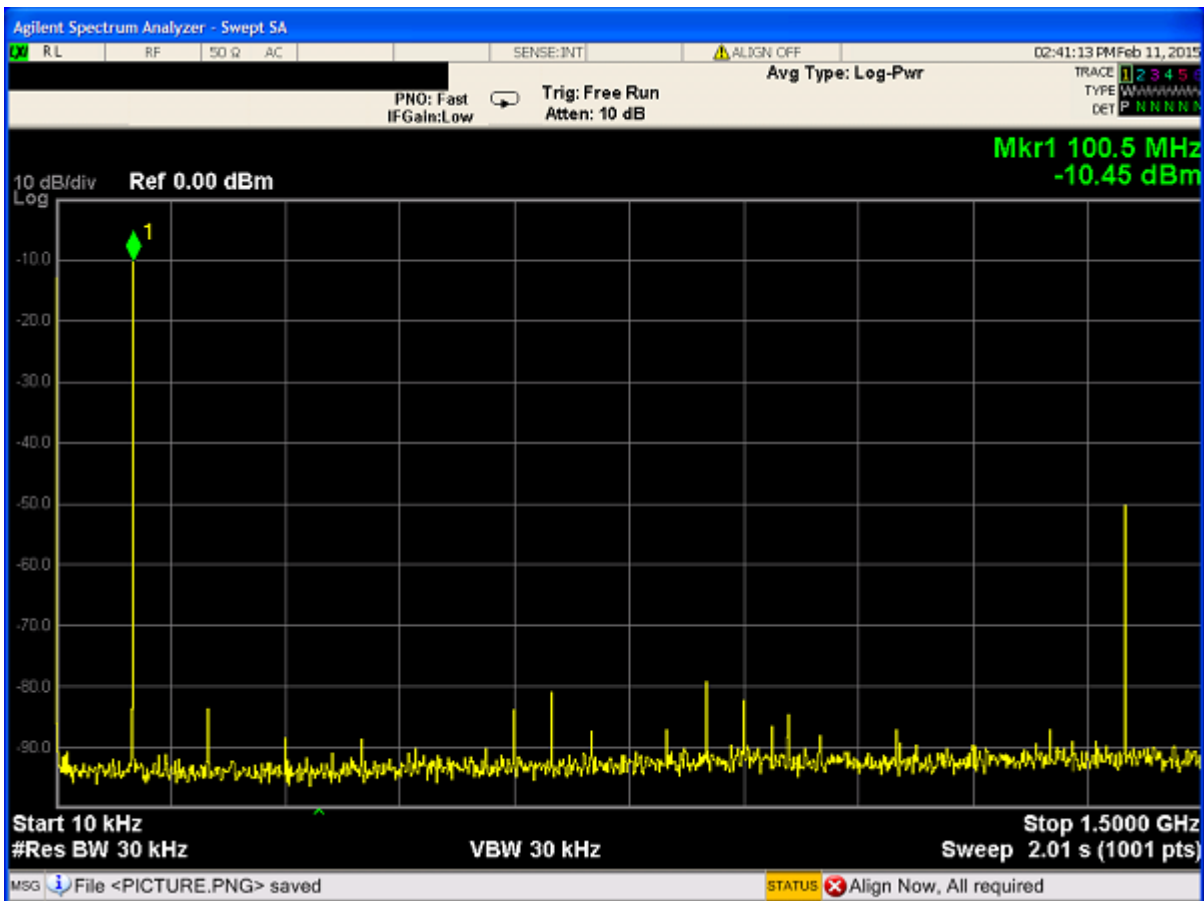

Figure 6. DAC Output Spectrum Analyzer Display
- Configure the hardware according to the hardware set-up instructions given in the Hardware Setup section above. Set the frequency of the DAC clock signal generator to 1500MHz, and the output level to 3dBm. The spectrum analyzer can be configured as shown in Figure 6 with a resolution bandwidth of 30kHz. Choose an Input Attenuation of 10dB.
5. Click Download () and Play () in the DPG Downloader screen. The spectrum in figure 6 will appear on all 2 DAC outputs (J17, J4, ), Serial Line Rate will be 3.75Gsps.